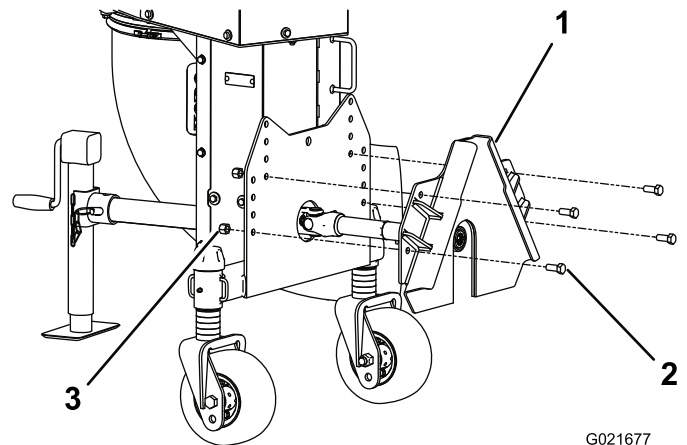

Figure 11
2. Install the mounting plate to the debris blower frame with (4) 1/2 x 1-1/4 inch bolts and (4) 1/2 inch locknuts (Figure 11). Use the lower set of holes on each side of the mounting plate when installing. Torque the bolts to 92 to 113 N-m (68 to 82 ft-lb)